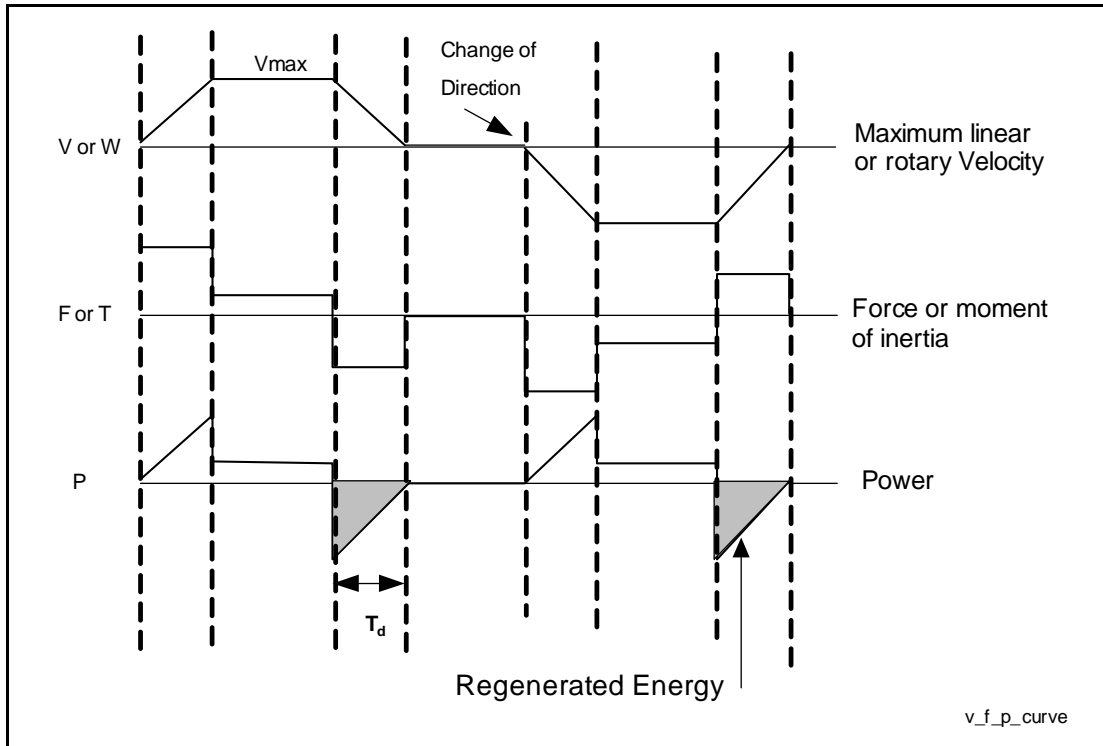

Figure 22 Example of Velocity, Force and Power Curves
2. Define the motion profile parameters and cycle of the motion as illustrated in **Figure 22**: